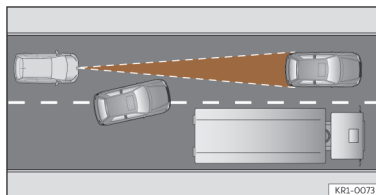

Fig. 123 Vehicle changing lanes.
- Vehicles that move into your lane, a short distance from your vehicle >>> **Fig. 123.**